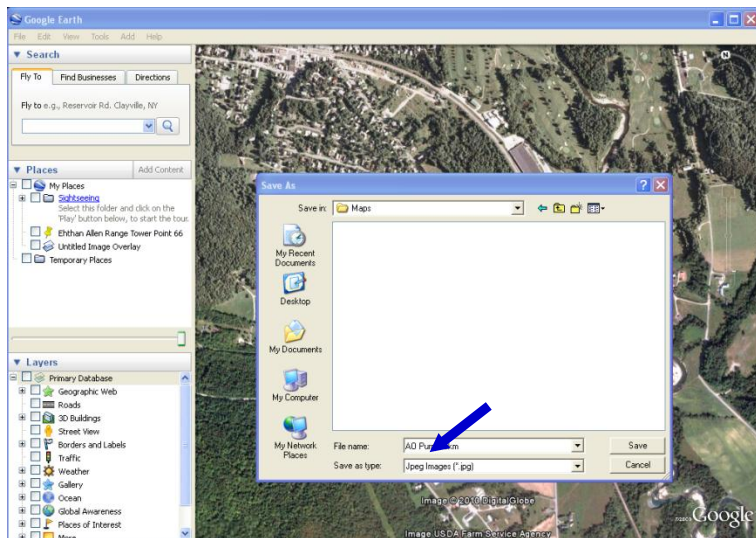

Figure 36: Save Image to File
- a. Under the file menu, click “Save->Save Image”. Choose an appropriate file name that describes the image contents and save the file under C:\Program Files\E-UGS\Maps (see Figure 36).